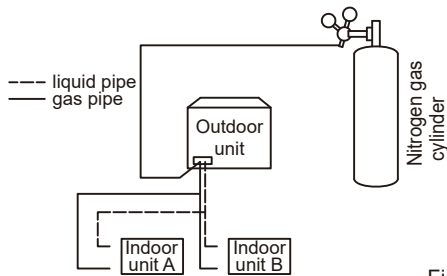

Figure 5.28
4. Use blind plugs to block all liquid (gas) side openings, except for the opening at the indoor unit which is furthest from the outdoor units ("Indoor unit A" in Figure 5.28).
8.Flush the other openings in the same manner, working in sequence from indoor unit A towards the outdoor units. Refer to Figure 5.28.